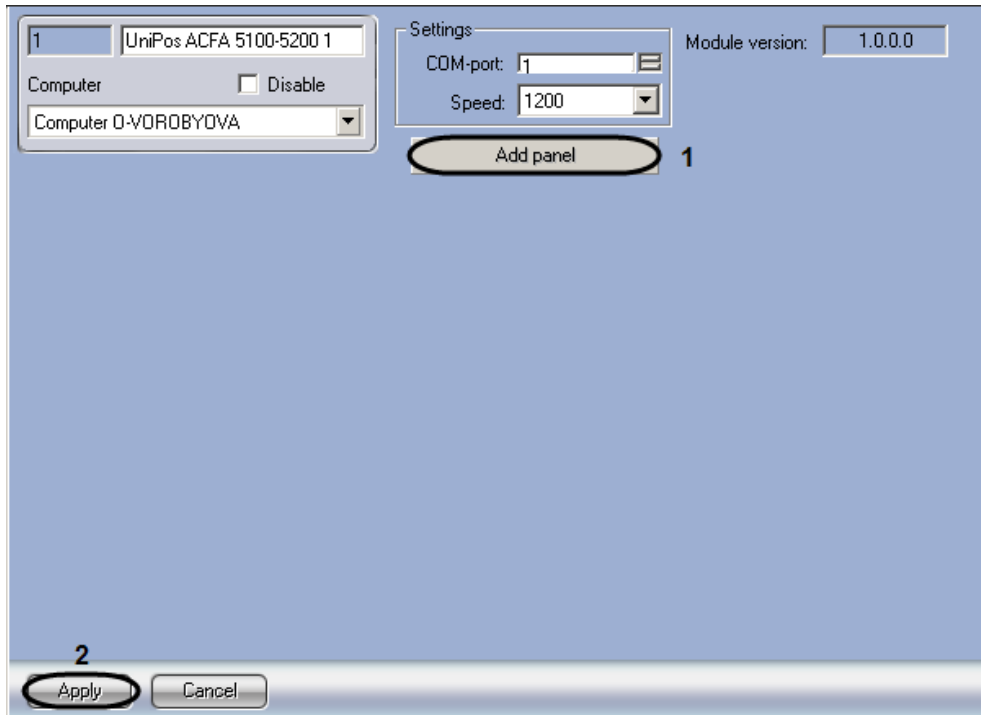

Figure 3.3—1 Panel adding
1. Go to the setting panel of the “UniPos” ACFA 5100-5200 object (Figure 3.3—1).
2. Click **Add panel** (Figure 3.3—1, 1).